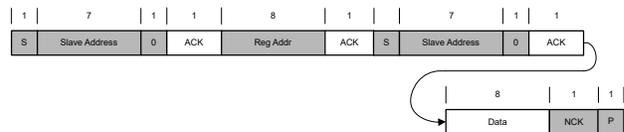

Figure 2. Single-Read Mode
Figure 2 shows the single-read mode. In addition to basic read and write, I²C read is multiplexed, and the transmission process has two START (S) signals. Typically, in the first transmission, the host sends data indicating the register or memory address inside the slave device after finding the slave through slave address; In the second transmission, the contents of the address are read. In other words, the first communication is to write an address to slave where the host wants to access, and the second is the actual contents of the read.